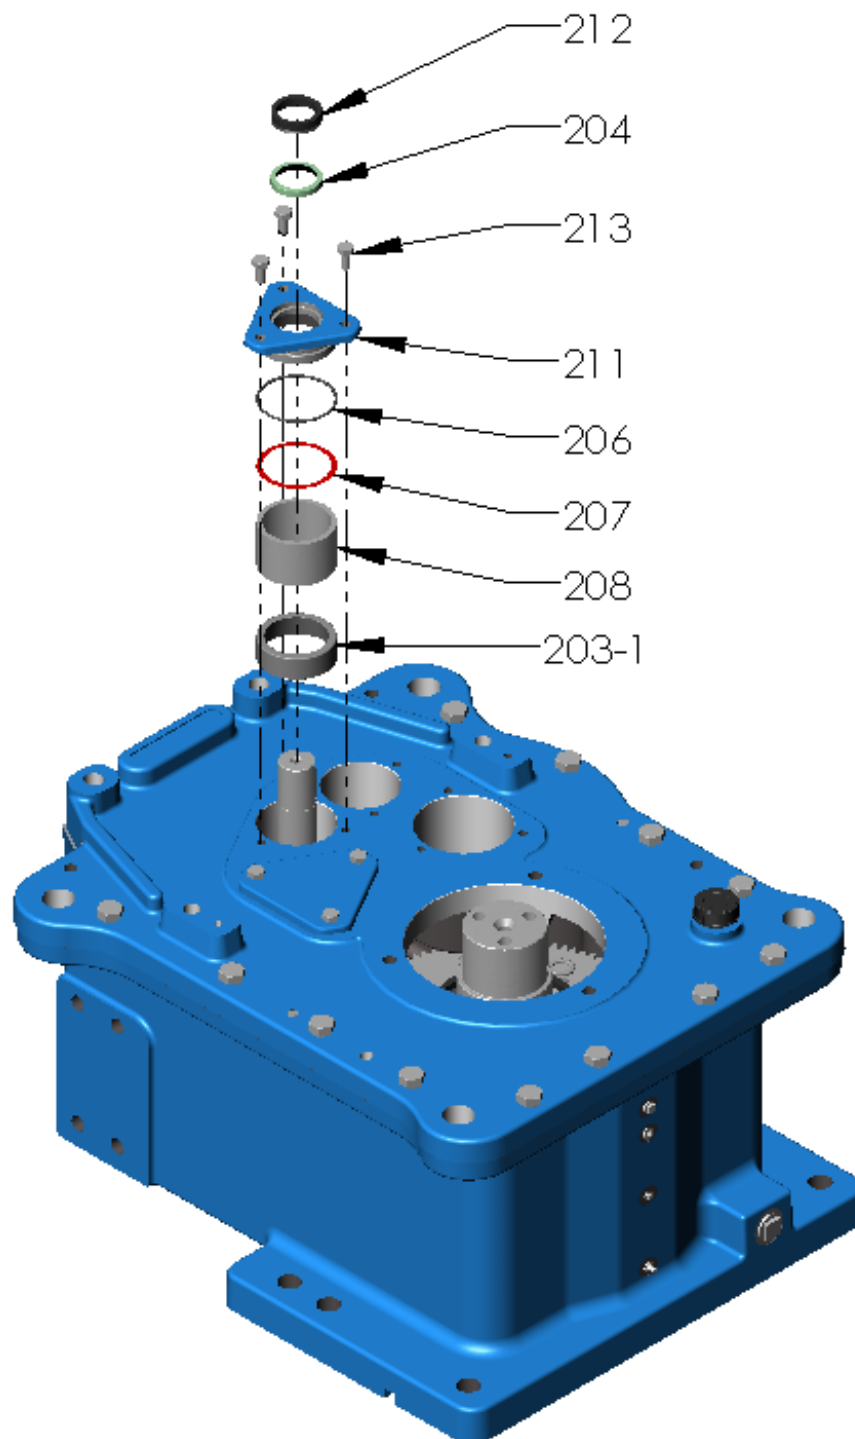

Figure 22 – Input Cap
- R. Input cap shim selection (refer Figure 22).
- (1) Put the bearing cone **[203-1]** and the bearing spacer **[208]** in the case lid bore.
- (2) Put the input cap **[211]** in the bore (no o-ring is necessary at this stage).
- (3) Use hand pressure and push down on the input cap **[211]**.
- (4) Using a Dial Test Indicator (DTI), check the end float on the input shaft by lifting up on the shaft. Record this measurement as "A".
- (5) Number of shims required = $A - 0.002$ ". Select appropriate shims set **[207]**.
- (6) Insert shim set **[207]**, input cap **[211]**, and bolts **[213]**.
- (7) Torque-tighten bolts **[213]** to value given in Figure 22.
- (8) Check end float. It needs to be between 0.001" and 0.003". Else remove input cap **[211]** and repeat from step 1.
- (9) Remove input cap **[211]** and shim set **[207]**.
- S. At input shaft, install following items (refer Figure 22):
- Bolts **[213]**, torque-tighten bolts **[213]** to value given in Figure 22